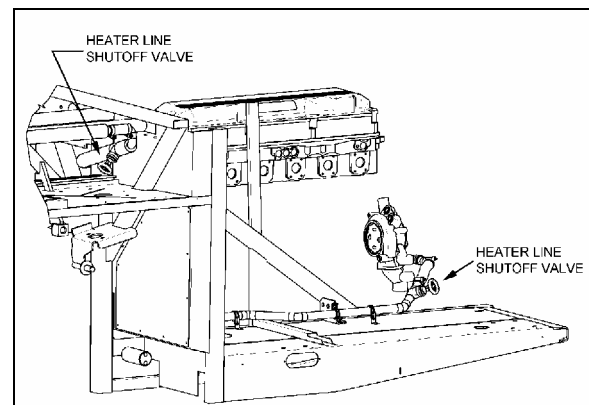
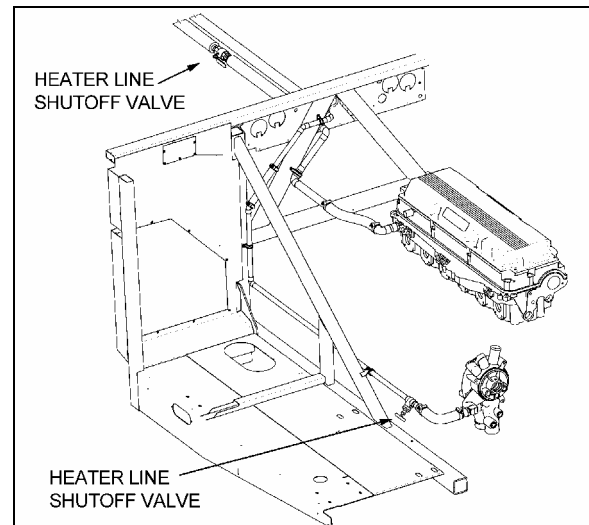

FIGURE 55: HEATER LINE SHUTOFF VALVES (CENTRAL HVAC SYSTEM)
FIGURE 56: HEATER LINE SHUTOFF VALVES (SMALL HVAC SYSTEM)
2. Close both heater line shutoff valves (Figure 55 & Figure 56). One is located in the engine compartment under the radiator fan gearbox, while the other one is located behind the L.H. hinged rear fender near the preheater. Refer to "Preheater System" in this section to gain access to the heater line shutoff valve.